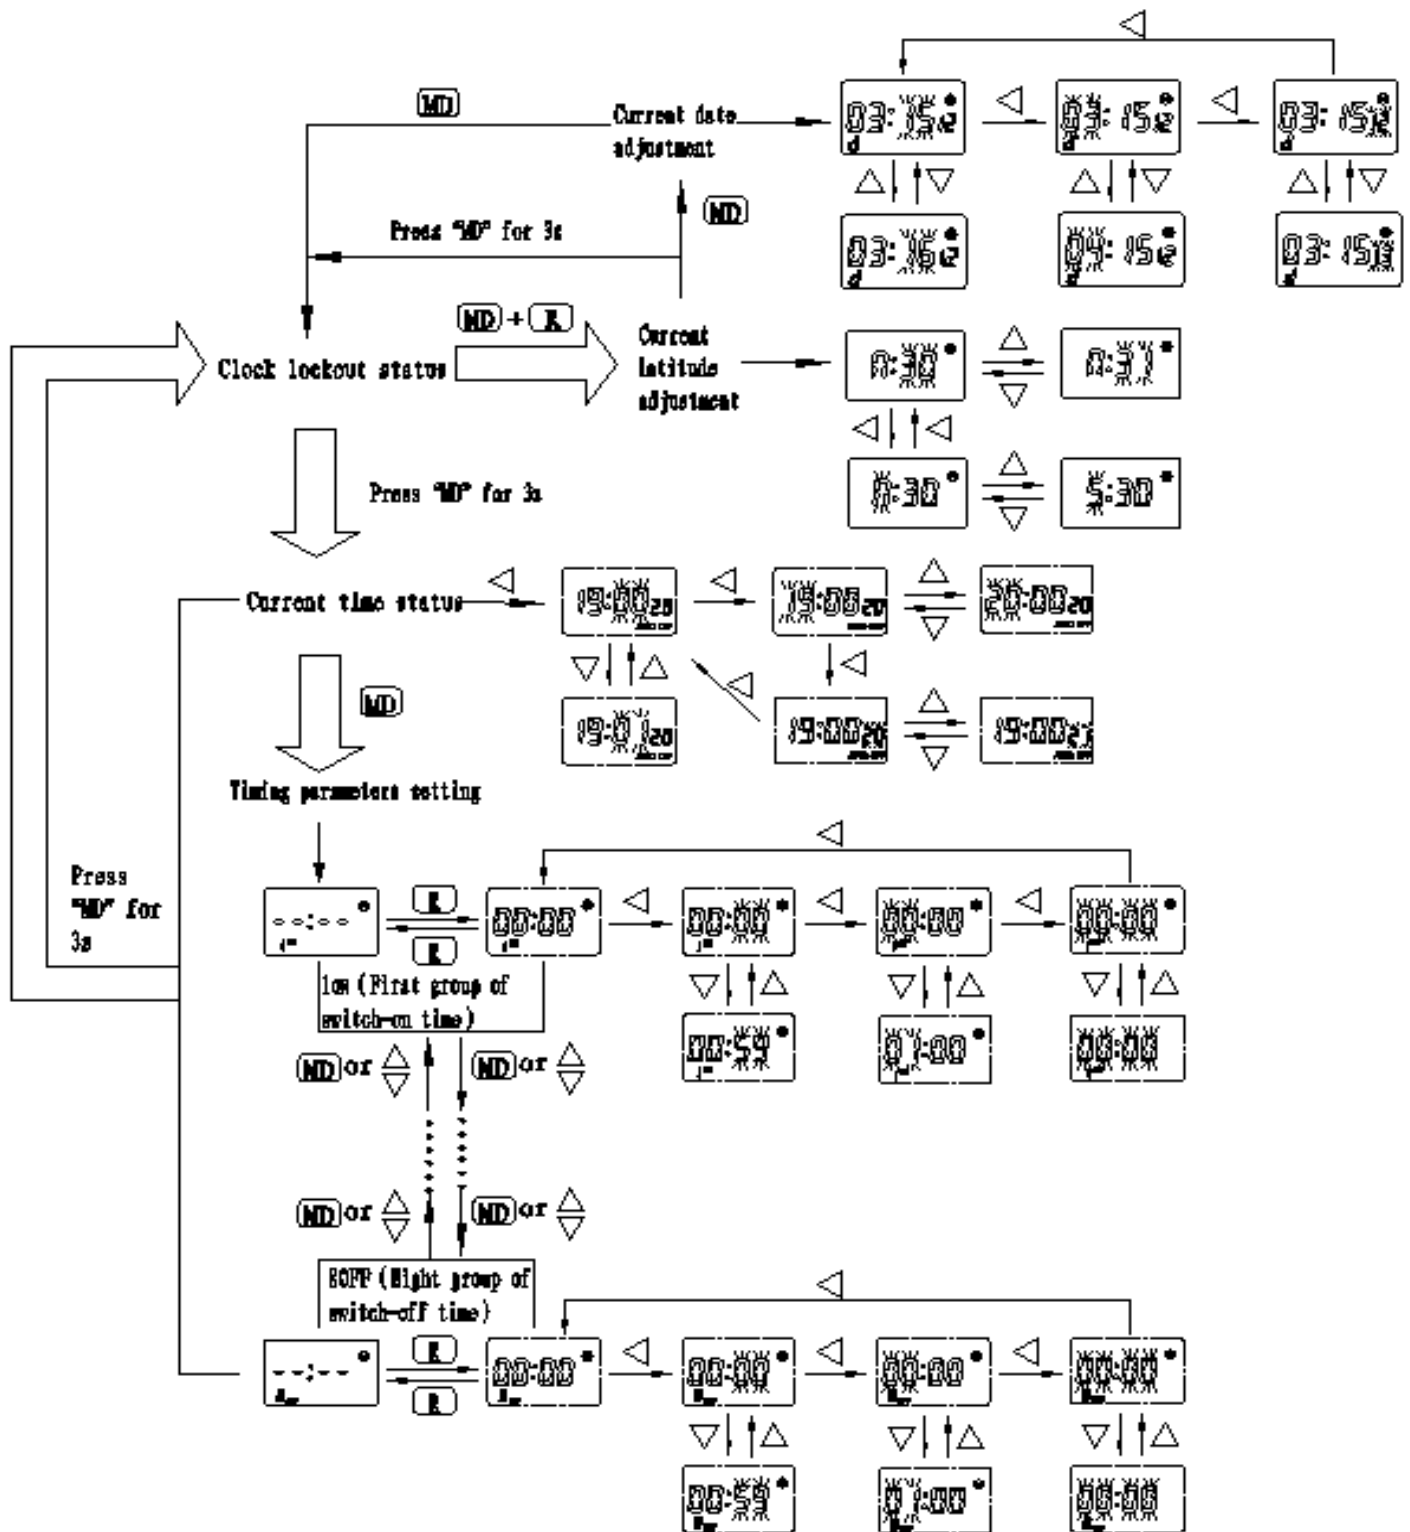

Figure 6 Time switch parameters setting process
6.1 Setting process for timing switch parameters (see Figure 6).